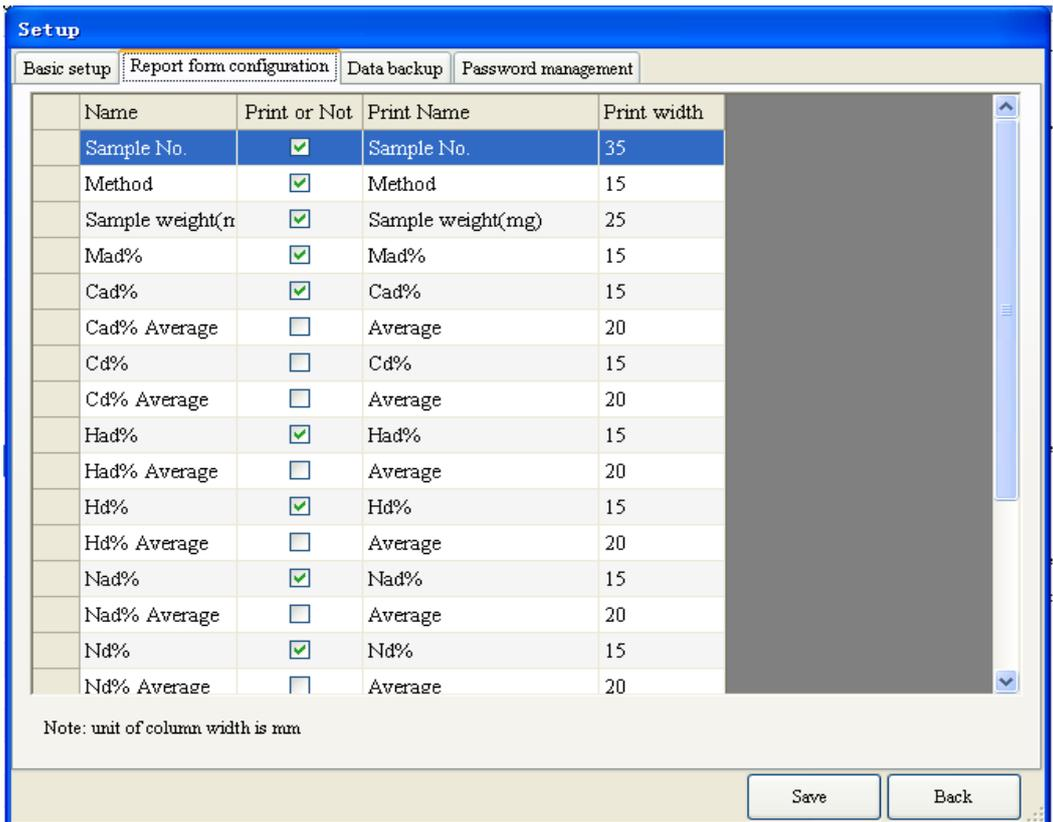

Fig. 5-1-3
1. Report form configuration: Click “Report Form Configuration” on the Setting window, the window as Fig. 5-1-3 will popup.